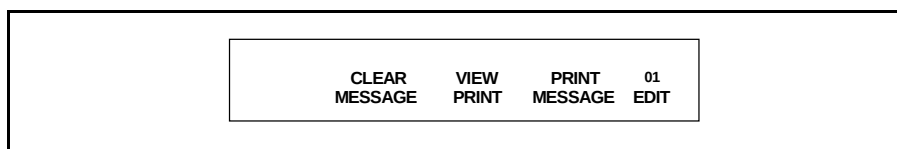

Figure 6-3. Frame <01 EDIT>
2. Begin in Frame <01 EDIT>. Refer to Figure 6-3.